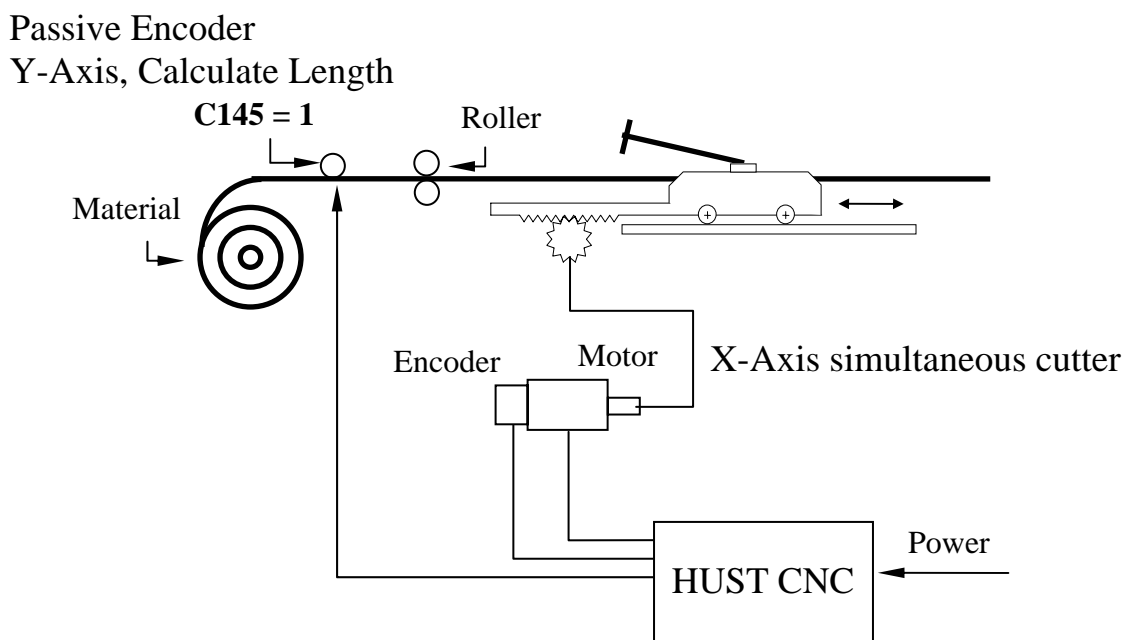

Fig 11-3 Passive Encoder –Table Type Fly Cut
- Table type fly cut (Fig 11-3)
Fig 11-3 shows a configuration of table type fly cut. A roll of material on the left is being continuously fed into the cutting table. The X-axis of the CNC controller controls the cutting action while the Y-axis is being used as a passive encoder to calculate the length of feed. Once the length is assured, the cutting action is activated.